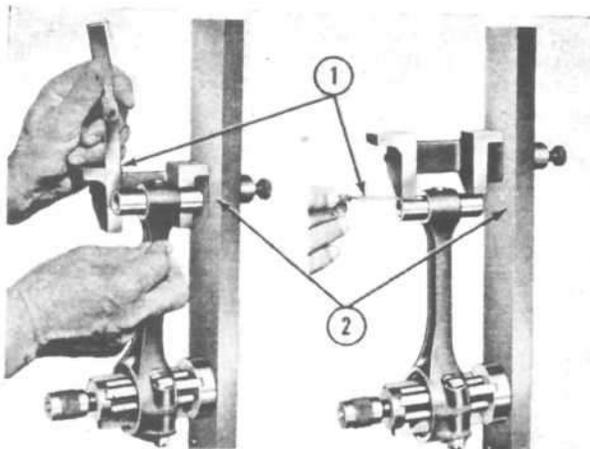

FIG. 40—CHECKING CONNECTING ROD ALIGNMENT
- d. Check and correct connecting rod alignment with a connecting rod aligning fixture as shown in Fig. 40. Follow the instructions furnished with the fixture.